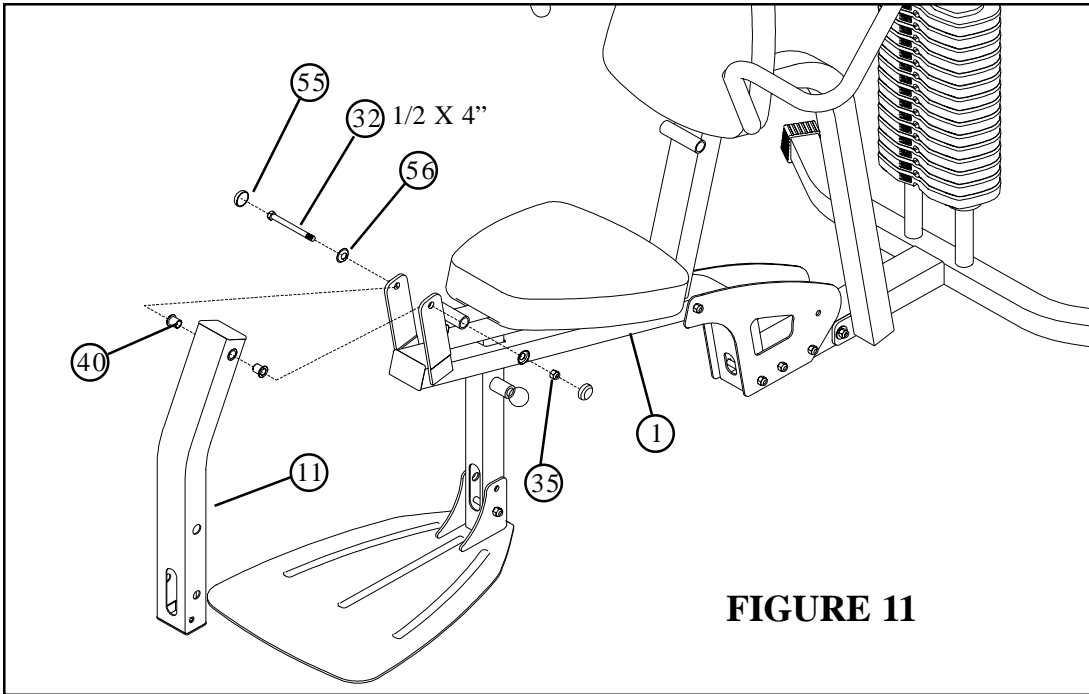

**FIGURE 10**
- Apply WEIGHT STACK LABELS (61) to WEIGHTS (22) and HEAD PLATE (19) as shown in FIGURE 10. Begin with number one at the HEAD PLATE (19) with larger numbers in consecutive order towards bottom of weight stack.
- Apply four PARAGLIDES (58) to the **INSIDE** of the tube of FRAME (1) as shown. Apply the remaining four PARAGLIDES (58) to the **OUTSIDE** and **FLUSH TO BOTTOM** of tube located on SEAT ADJUSTMENT (10)
- Securely assemble one SEAT PAD (13) to the SEAT ADJUSTMENT (10) using two 3/8 X 2-3/4" BOLTS (28) and two 3/8" WASHERS (36) as shown.
- Securely assemble one SEAT PAD (13) to the FRAME (1) using two 3/8 X 2-3/4" BOLTS (28) and two 3/8" WASHERS (36) as shown.
- Gently insert SEAT ADJUSTMENT (10) into tube located on FRAME (1)
- Securely tighten the SPRING PIN (50) to the FRAME (1) and hand tighten the THREE PRONG KNOB (52)